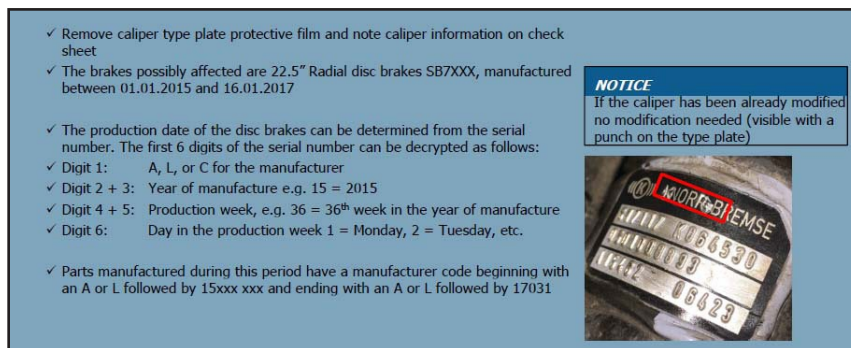

Figure 6 - Brake Caliper Production no.
1.7. Verify and record (see Annex 1) the Knorr brake caliper production no.. If the production date code is out of range or if the caliper type plate is already punched, no further action is required (see Figure 6). Indicate labor time to submit a claim.